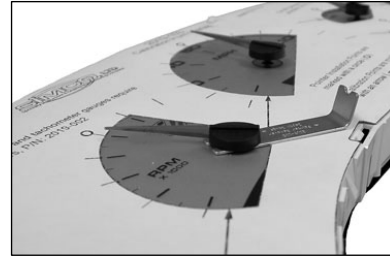

Figure 8
- B. Using the “Depth Gauge” end of the Pointer Remover Tool, locate it under the pointer cap and press the top of the pointer cap **straight down firmly** until the bottom of the cap rests on the tool (see figure 8)